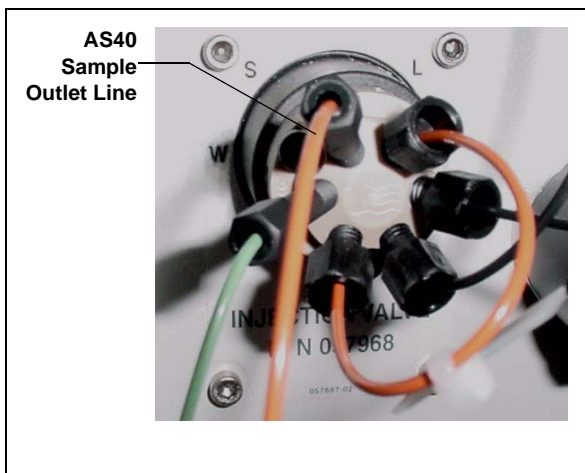

Figure 43. ICS-1500 Injection Valve
3. Connect the outlet line from the AS40 to port **S (5)** of the injection valve (see Figure 43).